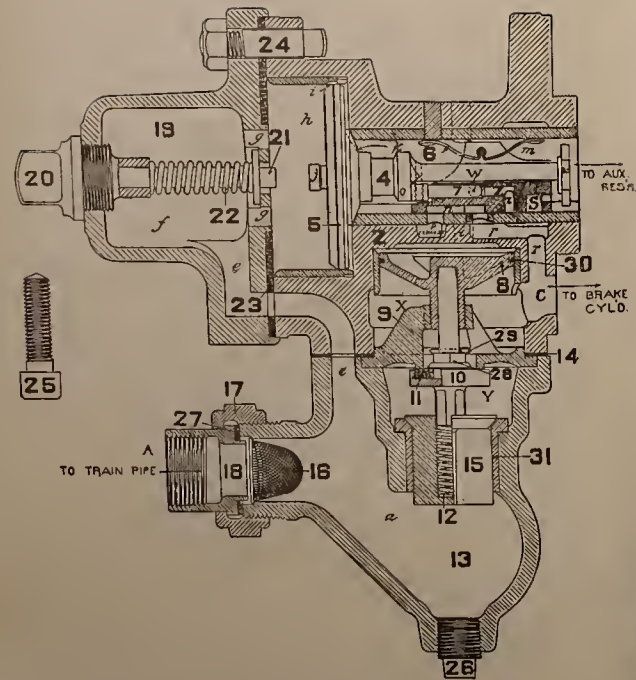
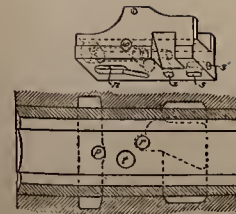
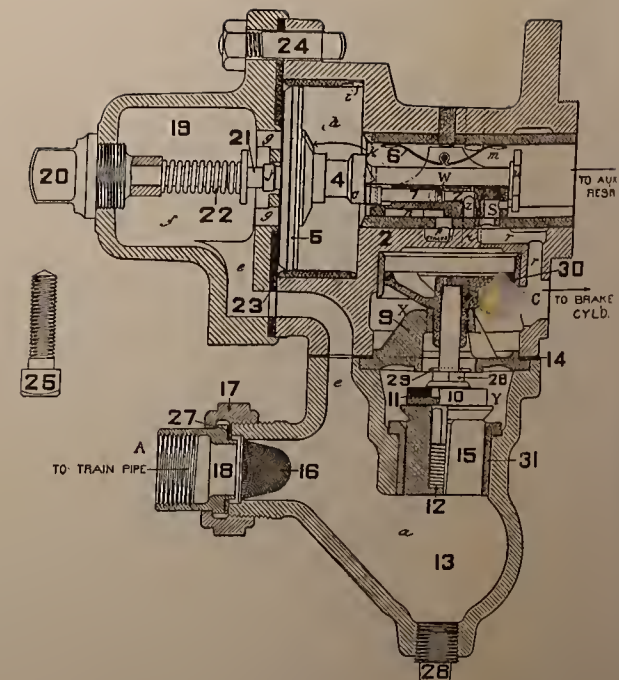

Fig. 288. Release Position.
Fig. 292.
Fig. 291. Emergency Application,
A. Referring to Fig. 291, Plate II, the triple piston makes
A. Controls the air flowing from the auxiliary reservoir through the slide-valve ports *W*, *Z* (Fig. 292).
A. Controls the connections between (1) brake cylinder and the atmosphere, (2) auxiliary reservoir and brake cylinder, and (3) auxiliary reservoir and the chamber above the emergency piston 8.
A. Air from the train pipe enters at *A* (Fig. 288, Plate II), flows through *e*, *f*, *g*, and *h*, past the main piston and through the grooves *i* and *k*, and chamber *m* to the auxiliary reservoir, until the pressures equalize (usually at 70 pounds).
A. The engine runner lets the main-reservoir excess pressure into the train pipe, so that the main piston is forced to extreme right position, Fig. 288; air is discharged through *r*, *n*, and *p* into the atmosphere; the feed groove *i* being uncovered, the auxiliary reservoir is recharged from the train pipe.
A. Sudden train-pipe pressure reduction moves the main piston to the left so fast that the spring 22 gives and lets the piston go to the position seen in Fig. 291, where a diagonal slot in the slide valve (see Fig. 292) opens port *t* (see dotted lines below the letter *Z*) and lets air into the chamber above the emergency piston 8, forcing this down, unseating emergency valve 10, and letting the pressure in the small chamber *Y* above the check valve 15 escape into the brake cylinder. Train pipe air raises the check and rushes through *a*, *Y*, and *X* into the brake cylinder at *C*. Air from the auxiliary reservoir flows through the small port *S* and *r* into the brake cylinder.